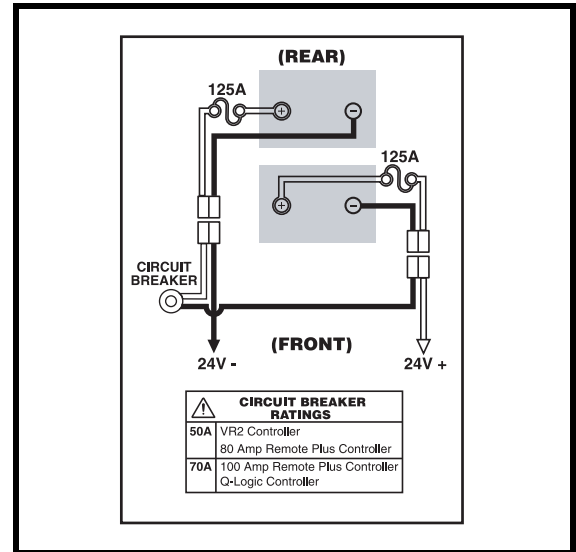

Figure 25. Battery Wiring Diagram
A battery wiring diagram is printed on a decal located on the battery door. See figure 25. Refer to the specifications table in III. "Your Power Chair" for correct battery specifications.
5. Locate the battery quick disconnects on the frame and disconnect both of them. See figure 25.
10. Connect the battery quick disconnects according to the battery wiring diagram label located on the frame. See figure 25.